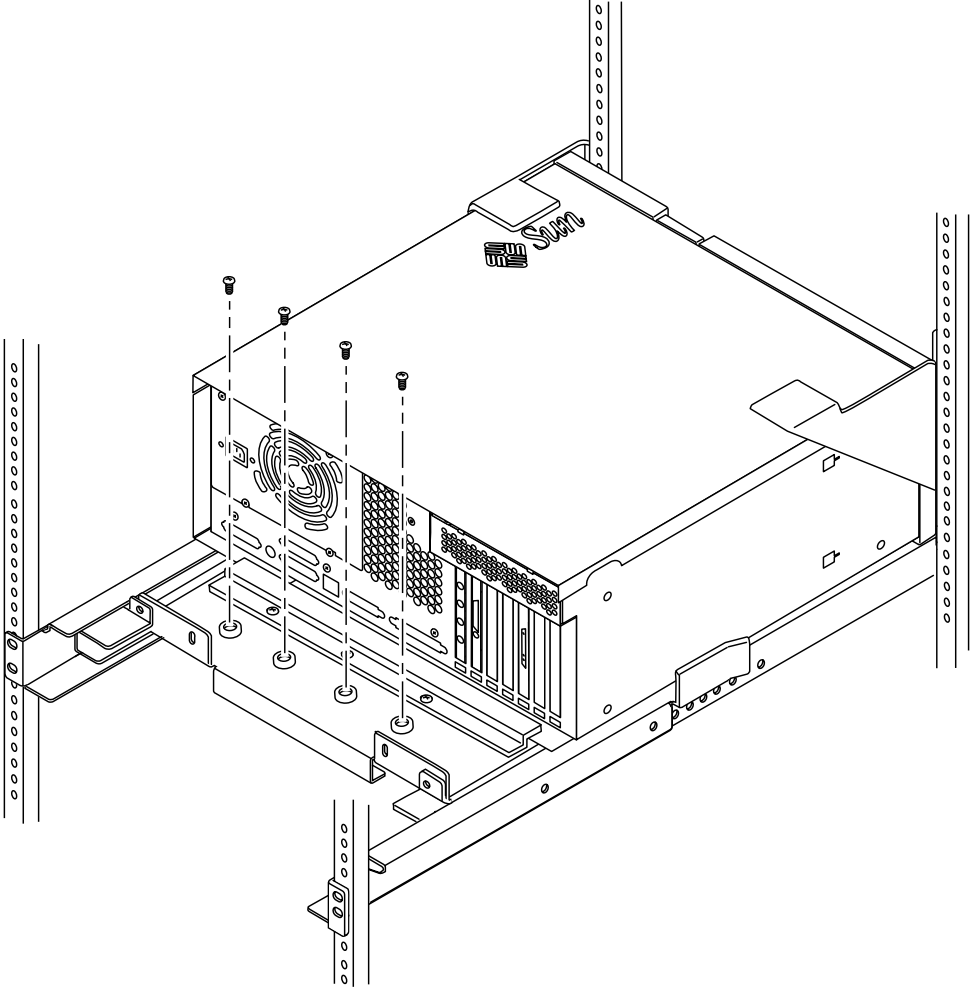

FIGURE 15 Storing Ultra 30/60 System Feet
10. Store the system feet (FIGURE 15).